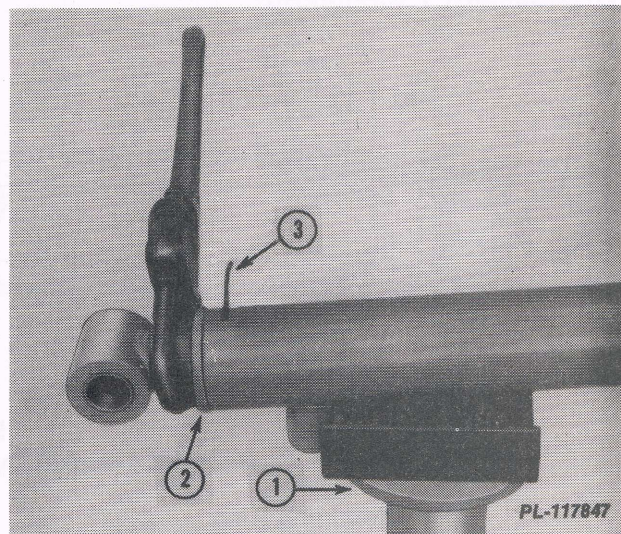

Fig. 16
2. Clamp the cylinder base in a vise. Support the rod end of the cylinder with a stand (1, Fig. 16).
3. Rotate the front head (2, Fig. 16) to align the end of the retaining ring (3, Fig. 16) with the slot in the cylinder. Start the end of the retaining ring out of the slot with a small screwdriver. Rotate the front head to remove the retaining ring.